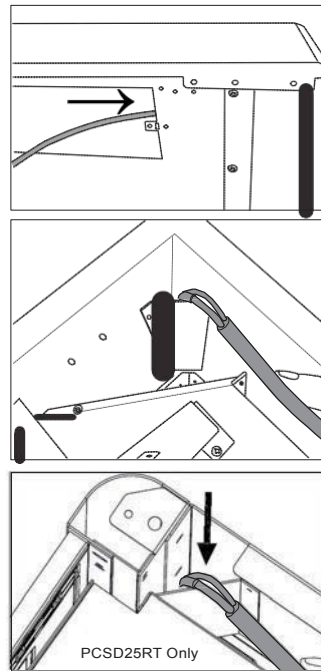

Figure 22 - Feeding Wire Harness
5. Insert wires marked with AUTO, OFF and MAN into wire slot in the right corner of the stove body. Feed the wires down and as close to the bottom of the stove as possible (see Figure 22).